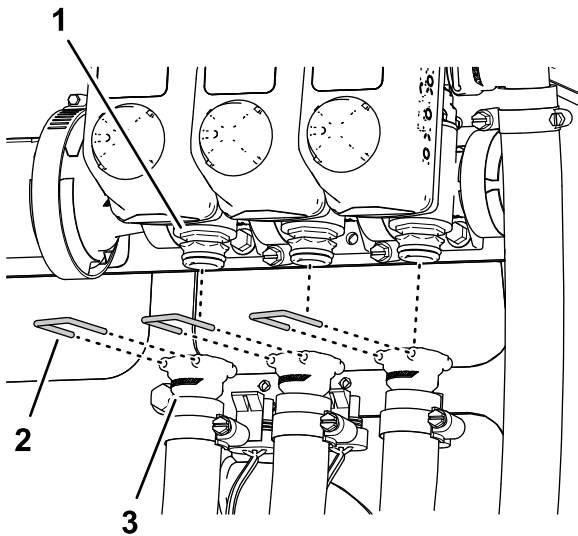

Figure 24
6. Remove the retainers that secure the left, center, and right supply hoses to the quick couplers of the section valves (Figure 24).